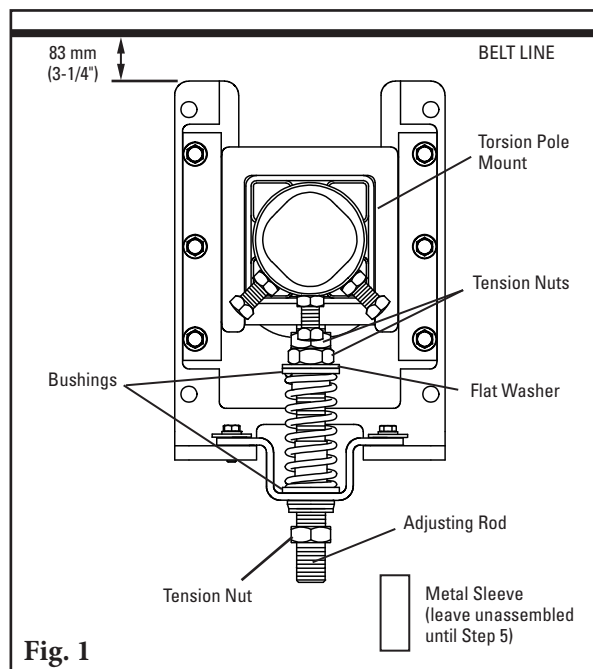

Fig. 1
1. **Reconfigure the standard pull-up tensioner to the push-up style.** Remove the 3 tension nuts, flat washer, 2 bushings, spring, sleeve and hat bracket; reassemble (Fig. 1) with 2 tension nuts, flat washer, 2 bushings, spring and hat bracket on upper end of adjusting rod. Add the 3rd tension nut to bottom of adjusting rod, this will act as a lock for the metal sleeve.